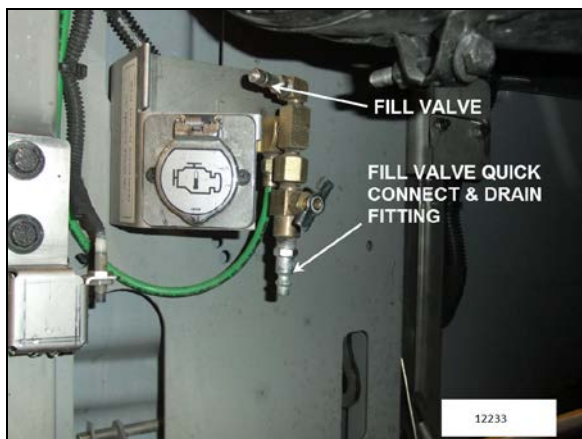

FIGURE 6: REAR VALVE LOCATION (TYPICAL)
The rear valve is located in the engine compartment and is accessible from engine compartment R.H. side door (Figure 6).
Replace the accessory air filter element at the intervals specified by the Lubrication And Servicing Schedule in Section 24: LUBRICATION & SERVICING or whenever differential pressure exceeds 15 psi (105 kPa) between filter inlet and outlet ports. Check condition of all three O-rings for damage. Replace when necessary (Figure 6).
The air dryer and wet tank may be purged simultaneously for maintenance purposes using the drain cock on the emergency air system fill valve located in the engine compartment and accessible through the engine compartment R.H. side door (Figure 6).
1. Release air dryer pressure by opening the air dryer drain valve (Figure 6).